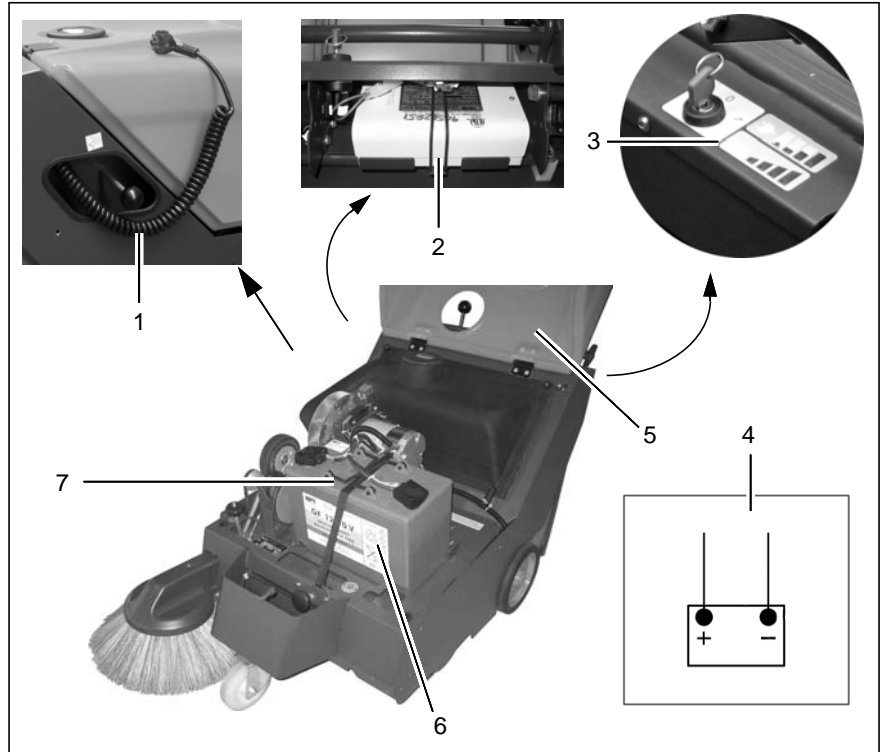

Fig. 15
During operation, the battery discharge indicator in the operating panel (Fig. 15/3) indicates the discharge status of the battery, refer to Section 3.2.2, Section "Battery discharge status (Fig. 10/3)". The battery must be charged immediately the red LED lights up. The battery (Fig. 15/6) is recharged using the integrated on-board charger (Fig. 15/2):
2. Remove the charger cable (Fig. 15/1) from the recess on the right-hand side of the machine.
3. Plug the charger cable (Fig. 15/1) in a 230 V power outlet.
While the battery is charging, the charge control indicator lights up in the operating panel (Fig. 15/3), refer to Section 3.2.2, Section "Charge control indicator (Fig. 10/2)".
1. Unlock the hood (Fig. 15/5) using a square wrench and open the hood (Fig. 15/5).
2. Disconnect the negative cable from the battery (Fig. 15/6).
3. Disconnect the positive cable from the battery (Fig. 15/6).
5. Take hold of the battery (Fig. 15/6) by their handles (Fig. 15/7) and lift them out.
2. Take hold of the battery (Fig. 15/6) by their handles (Fig. 15/7) and install them at their prescribed positions in the machine, refer to Figure 15.
4. Connect the battery (Fig. 15/6) in accordance with the connection diagram (Fig. 15/4).
5. Connect the negative cable of the machine to the battery (Fig. 15/6) installed in the machine.
6. Connect the positive cable of the machine to the battery (Fig. 15/6) installed in the machine, refer to Section 2.1.4.
7. Close the hood (Fig. 15/5) so that it audibly locks.